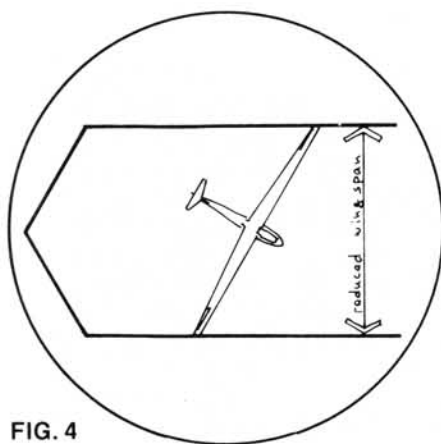

FIG. 4
- 2) drag of the wing, because the wingspan that is perpendicular to the airstream is reduced, forcing the glider to fly with a larger angle of attack for the same speed (fig. 4)